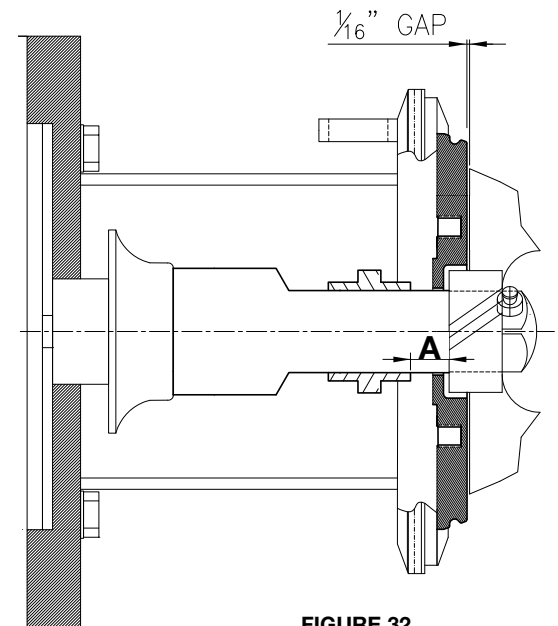

FIGURE 32
1. Scribe a mark on the shaft at location "A". (Figure 32)
3. Position the drive collar in relation to the scribe mark "A" and tighten the setscrews. (Figure 32)